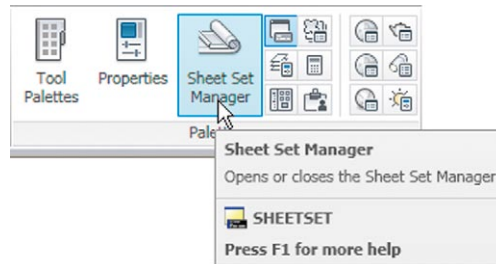
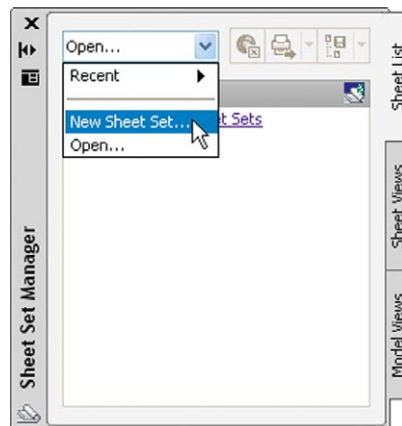

Fig. 11.3 Selecting Sheet Set Manager from the View/Palettes panel
Fig. 11.4 The Sheet Set Manager palette
3. Click **Sheet Set Manager** in the **View/Palettes** panel (Fig. 11.3). The **Sheet Set Manager** palette appears (Fig. 11.4). Click **New Sheet Set...** in the popup menu at the top of the palettes. The first of a series of **Create Sheet Set** dialogs appears – the **Create Sheet Set – Begin**